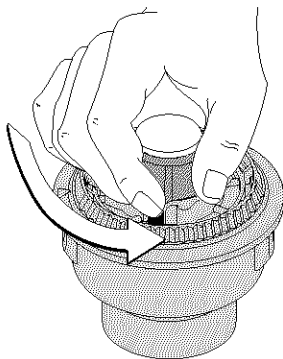

Fig. 28
1. Hold the outer spool, and unscrew the bump knob counterclockwise (Fig. 28).